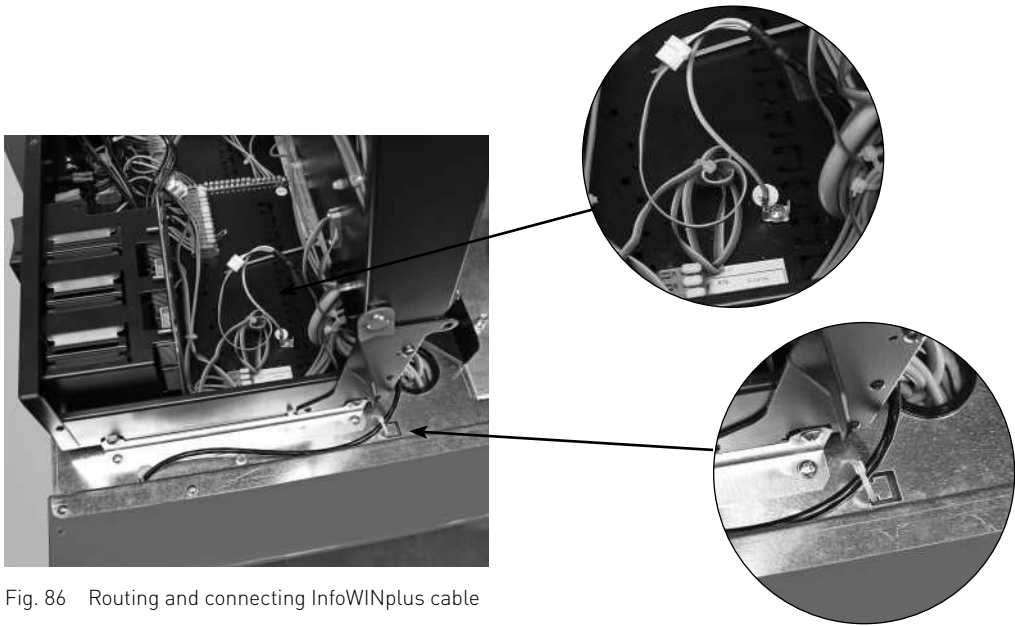

Fig. 86 Routing and connecting InfoWINplus cable
- Control panel top part folded up until it engages in lock at side – Fig. 86.